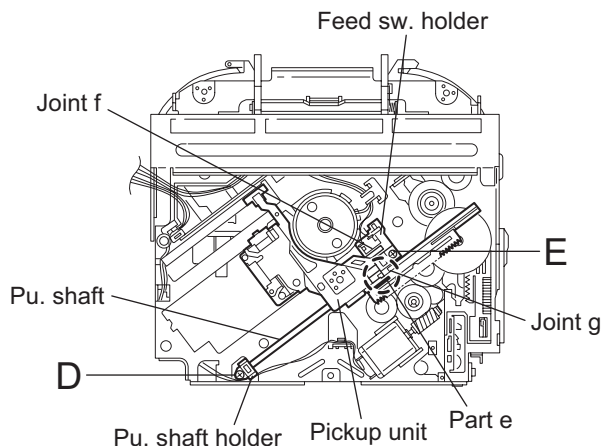

Fig.14
2.2.7 Removing the pickup unit (See Figs.14 to 18)
2.2.8 Reattaching the pickup unit (See Figs.14 to 17)